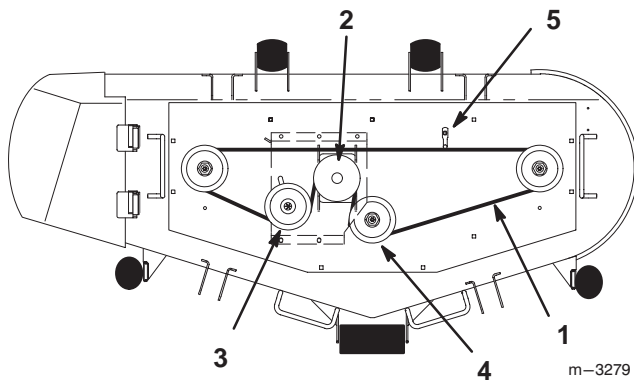

Figure 36
4. Install new deck belt pulling through space behind gearbox pulley, then routing around two outboard spindle pulleys and center spindle pulley. Check that belt is in front of belt guide (Fig. 36).